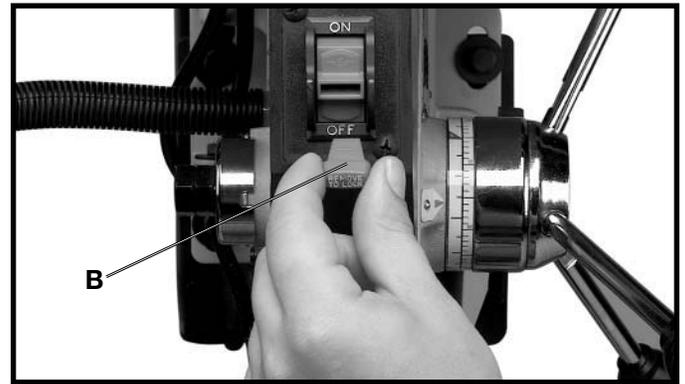

Fig. 19
**IMPORTANT:** When the machine is not in use, the switch should be locked in the “OFF” position to prevent unauthorized use. This can be done by grasping the switch toggle (B) and pulling it out of the switch, as shown in Fig. 19. With the switch toggle (B) removed, the switch will not operate. However, should the switch toggle be removed while the drill press is operating, the switch can be turned “OFF” once, but cannot be restarted without inserting the switch toggle (B).